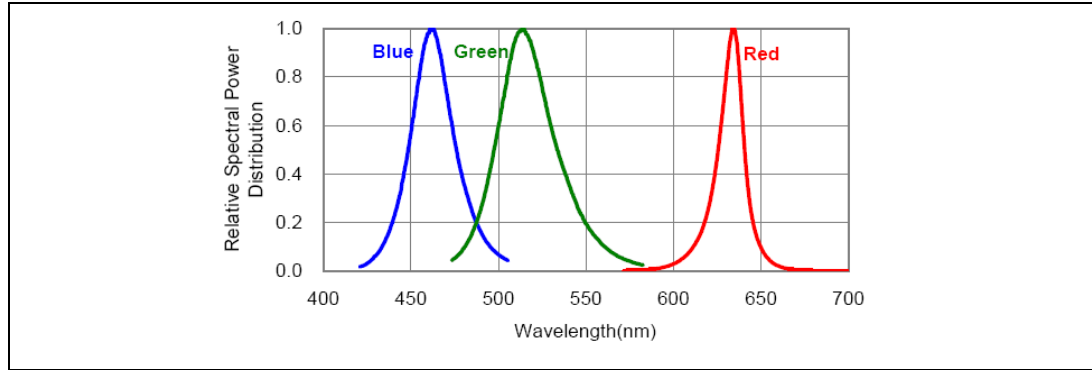

Figure 13-4. Spectral properties of the RGB LED. Peak wavelengths are: 620nm, 530nm and 465nm.
- (M) The optical system for this lab section is shown in Fig. 13-3. We will use a 20 μm wide vertical slit that is imaged by the lens and the camera onto the CCD. When a grating is placed at the object module, which is in the Fraunhofer region with respect to the slit image, we observe the Fourier transform of the grating convolved with the slit image. Our grating is a 100 μm pitch binary amplitude 0.5 duty cycle grating. Our source is a multiple-color LED, which has spectral properties as shown in Fig. 13-4.
- (N) Turn on the red source with the appropriate switch. Leave the green and blue switches off. Check to see that the slit is being imaged onto the camera without the grating.
- (O) Install the grating on the object module, and align the grating with the slit using the red source.
- (P) Note the diffraction pattern, and identify the 0th, +/- 1st and +/- 2nd diffraction orders, if possible.
- (Q) Turn on the red, green and blue sources. Describe the diffraction pattern, including properties of the zero order.
- (R) Capture the diffraction pattern with the camera, saving it to the hard disk and plotting the profile using the Matlab software.
- (S) Using the separation of the zero order and first order of the blue source as a calibration, calculate the expected positions of the green and red 1st orders. Use the grating equation to find the expected positions. Compare the expected positions with the experimental profiles.
- (T) Use the transmission grating and the spectrometer to investigate how a grating's resolving power depends on order number, m . Use the sodium source and locate the yellow doublet. Measure the angular separation of the doublet as a function of order number m . How does the separation change with order number? Compare to the expected result.
- (U) (5pts Extra Credit) – What is the difficulty in measuring both widely separated source wavelengths and finely resolved doublets with a grating spectrometer?